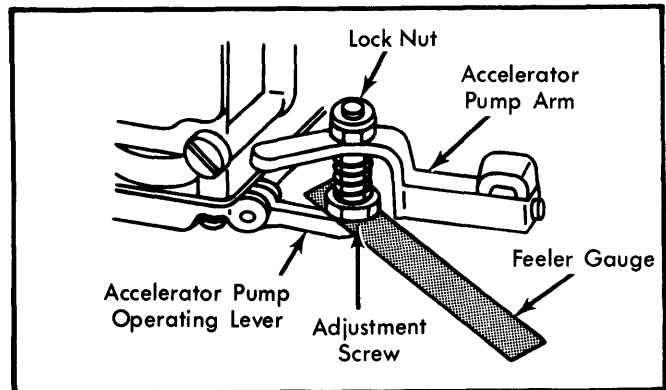

Fig. 1 Accelerator Pump Lever Adjustment
1) Open throttle valves wide open. Using a feeler gauge, measure specified clearance between the lever adjustment screw head and pump arm with the pump arm manually open. See Fig. 1.